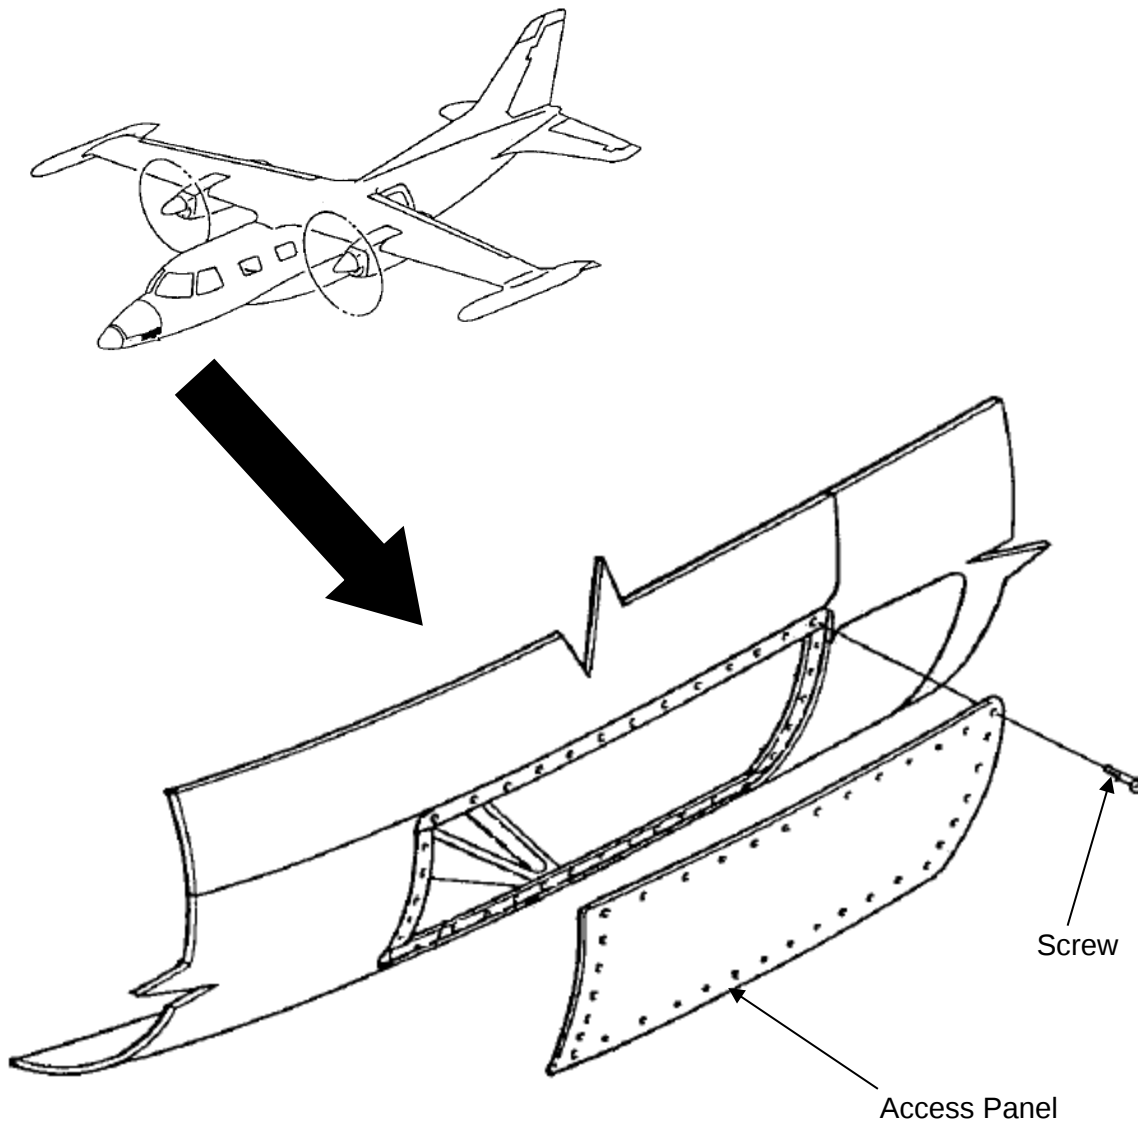

Figure 3: Access Panel Removal (LH/RH)
- (1) Place the aircraft on jacks.
- (2) Remove LH and RH Access Panels from Forward Fuselage. (Figure 3)
- (3) Remove Traveling Nut Panel (Cabin).
- (4) Connect Torque Links.
- (5) Perform operational check of Landing Gear System.